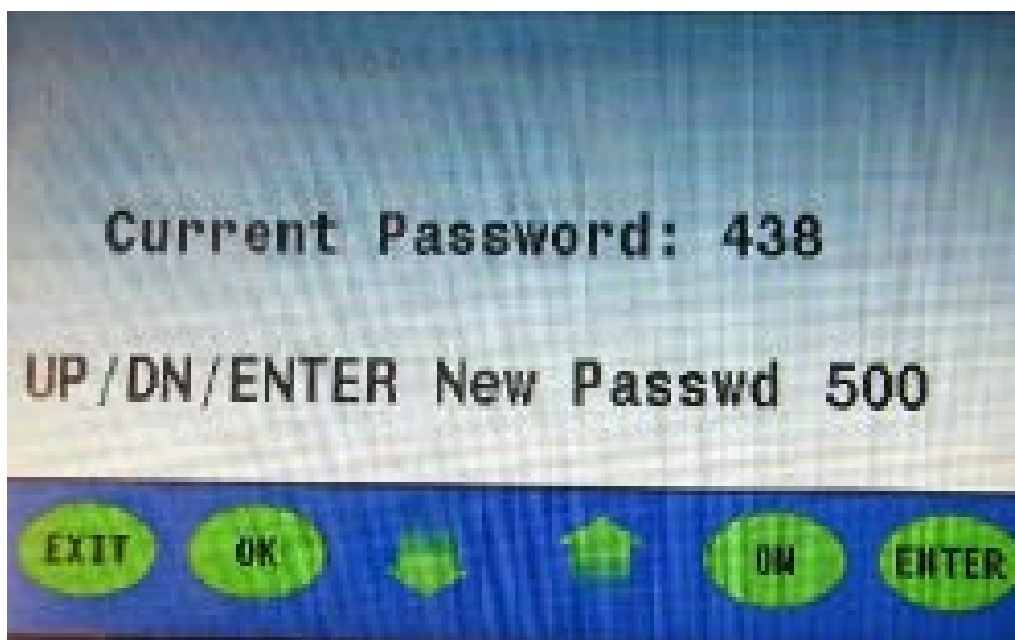

Figure 15
7. To set the first number in the new password sequence, press the **up arrow** (to decrease, use the **down arrow** (**figure 15**).